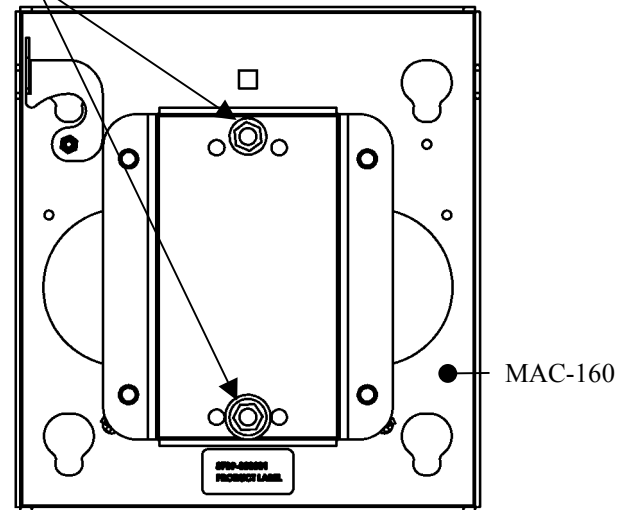

Figure 8. Adjust Roll Tension on Faceplate
1. Perform the “REMOVE THE DISPLAY” procedure to make the roll tension adjustment nuts accessible (see Figure 8).
3. As needed, loosen or tighten the roll adjustment nuts (see Figure 8).